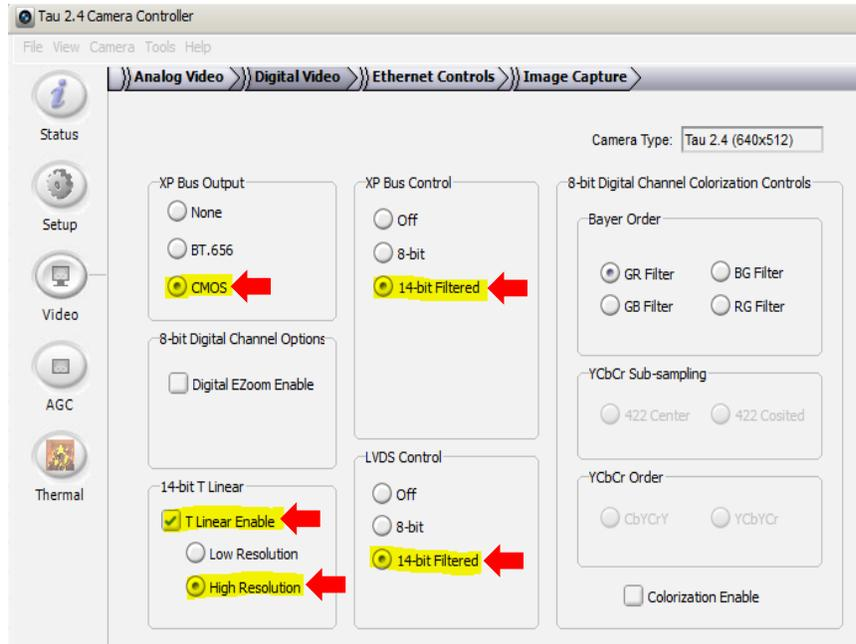

Figure 2: FLIR Camera Controller Interface - Digital Video Tab
2. Select all the settings shown in Figure 2.